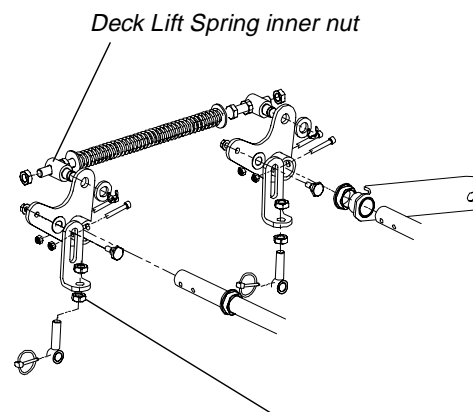

Figure. 5
- If the dimension at the front of the mowing deck is 1/8"-1/4" lower than the dimension at the rear of the deck on each side of the mower, do not adjust. If not, you will need to adjust the Deck Lift Spring Assist (See Figure 5). You may also need to adjust the Deck Links (See Figure 5).